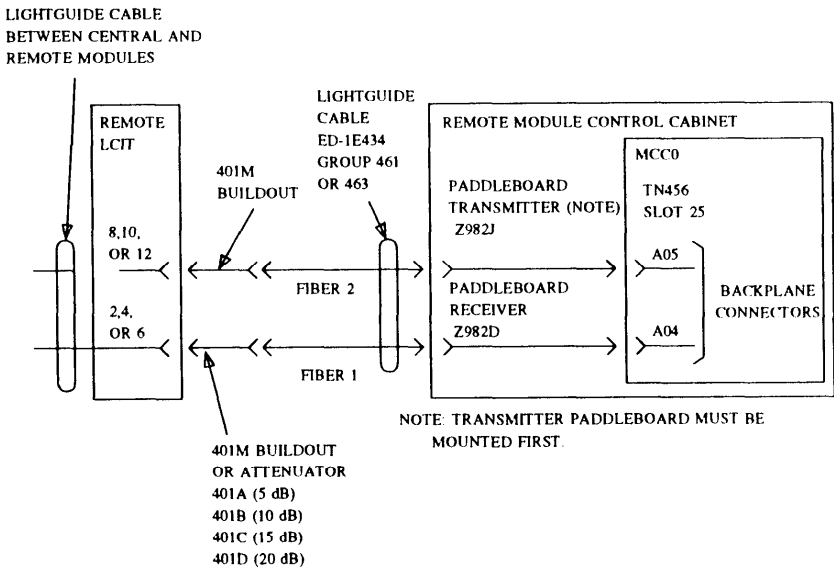

Figure 12-55. Remote RMI Fiber-Link Connections for Unduplicated Module Control (Phases 1 and 3 — Traditional Module at Remote Site)
Figures 12-55 and 12-56 show the RMI fiber link for the remote location for an unduplicated and duplicated system. Install the RMI fiber link as follows:
5. Connect the fiber-optic cables to the appropriate attenuator as shown in figures 12-55 and 12-56.